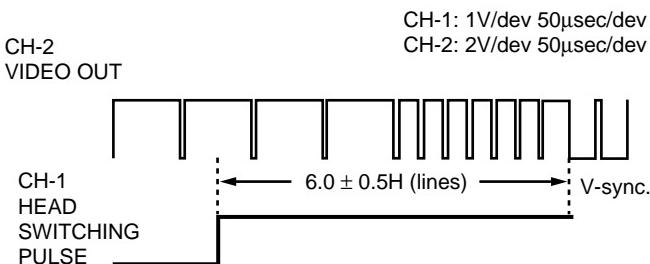

Figure 5-2.
4. Adjust R701 so that the leading edge of the head switching pulse is  $6.0H$  (lines) ahead of the vertical sync as shown in Figure 5-2.